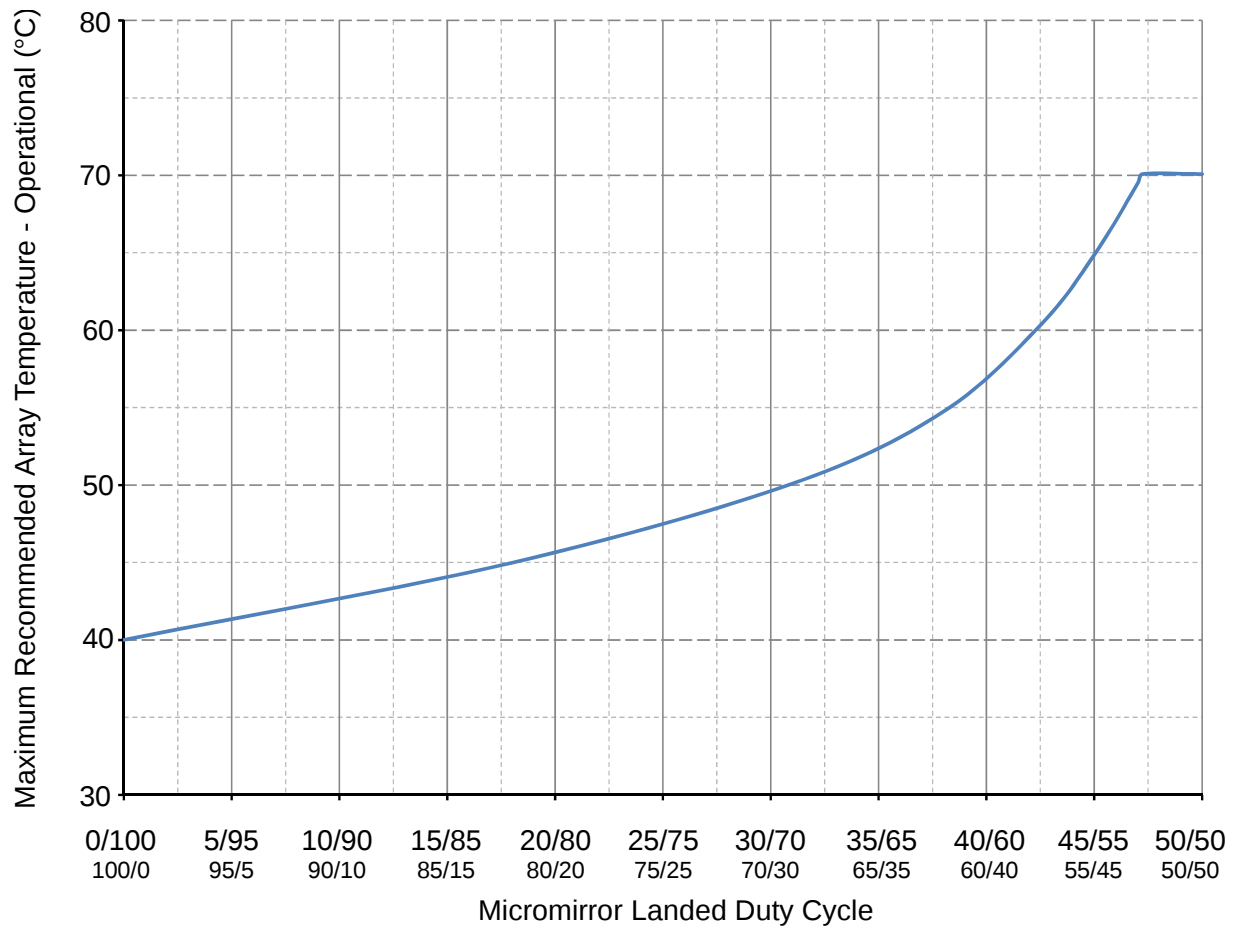

Figure 1. Max Recommended Array Temperature - Derating Curve
(14) Per Figure 1, the maximum operational array temperature should be derated based on the micromirror landed duty cycle that the DMD experiences in the end application. See Micromirror Landed-On/Landed-Off Duty Cycle for a definition of micromirror landed duty cycle.
(15) Long-term is defined as the usable life of the device.
(16) Array temperatures beyond those specified as long-term are recommended for short-term conditions only (power-up). Short-term is defined as cumulative time over the usable life of the device and is less than 500 hours.